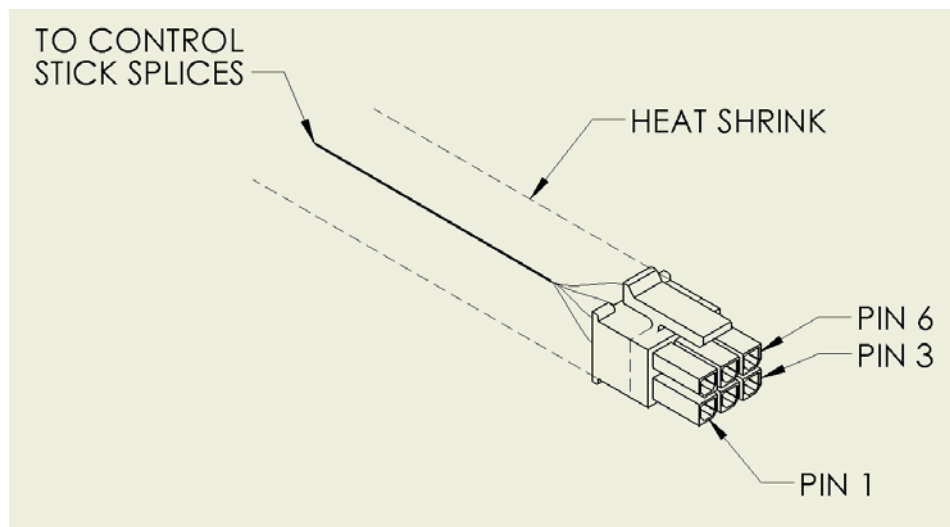

Figure 3
- iii. Figure 3 shows pin position in connector for reference.